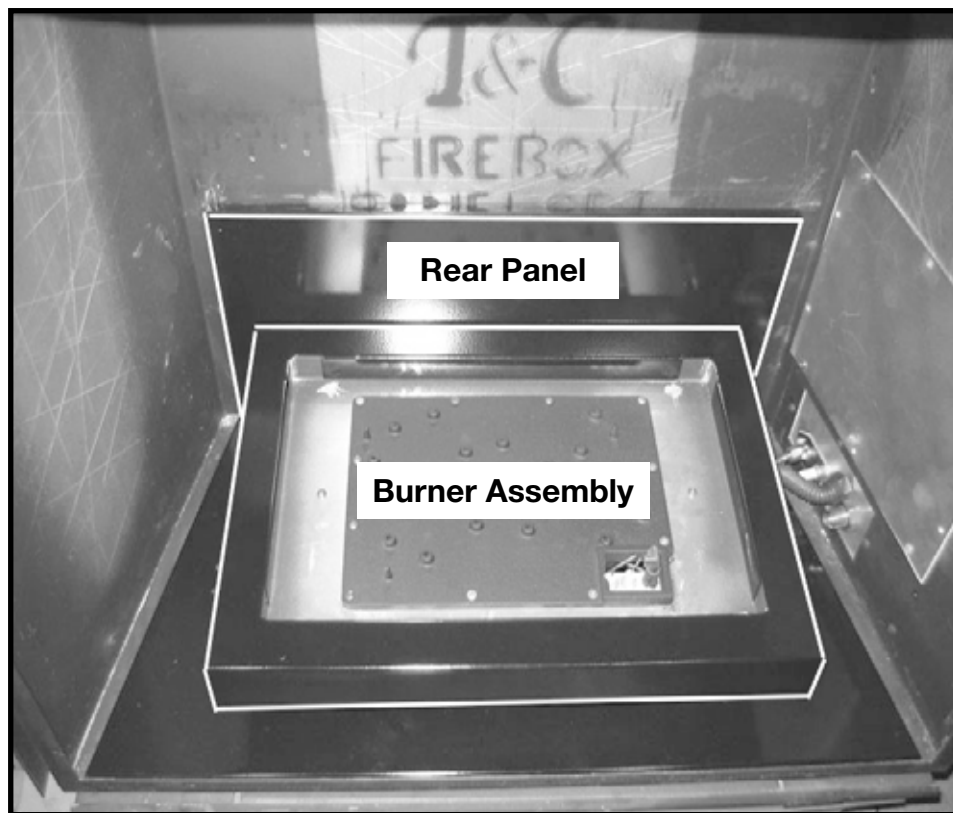

Figure 11: Lower rear panel and burner assembly.
9. Position the burner tray assembly into the firebox and against the lower rear panel (Figure 11).